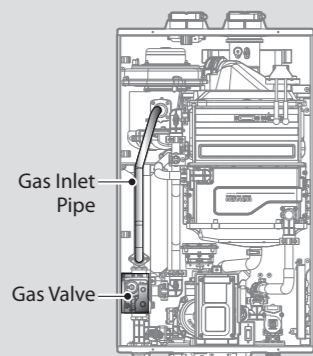

Figure 2. NPE Series Internal Components
- Once the front cover is removed, place it in a safe location to prevent accidental damage. With the internal components exposed, locate the gas inlet pipe and the Gas Valve near the left side of the unit which are highlighted in Figure 2.